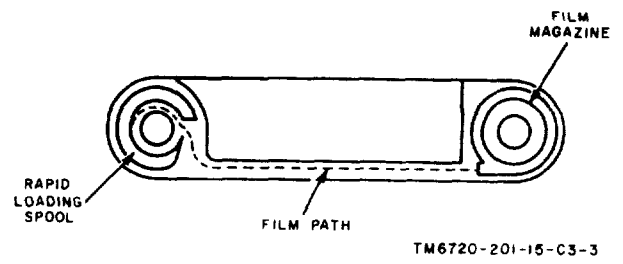

Figure 20.3. Film loading diagram.
(1) Move the rapid loading spool to the loading position by turning the wind knob until the opening accepting the film faces the sprocket shaft (fig. 20.3).
(2) Slide the film magazine halfway into the camera body. Pull out the film end an: insert it into the rapid loading spool. Then push the magazine and film leader into the camera.
(3) Replace and secure the base plate. Make two blind exposures, then pull the film taut by turning, the rewind knob in the direction of the arrow. When the shutter is tensioned a third time, the rewind knob will turn, indicating that the film has been properly loaded and is being advanced.
(4) Set the exposure counter dial to the number 1 position. The camera is now ready for the first exposure.